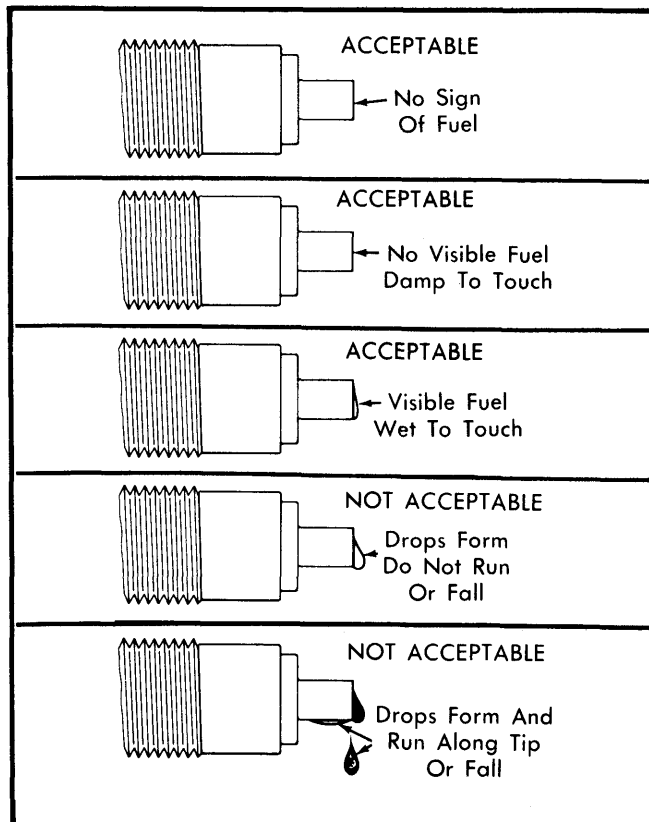

Fig. 11 Injection Nozzle Seat Tightness Check
4) To test nozzle seat for leakage, decrease pressure to at least 290 psi BELOW actual opening pressure. Dry nozzle tip with compressed air, then increase pressure to 150 psi BELOW actual opening pressure. Maintain pressure for 5 seconds and compare fuel leakage to examples shown in Fig. 11.